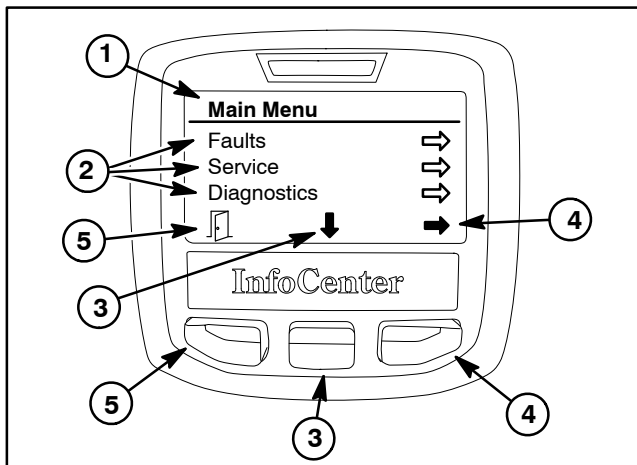

Figure 12
The main menu screen can be accessed from the InfoCenter main information or splash screen by pressing and releasing the menu/back button (left button) on the display. Once to the main menu screen (Fig. 12), navigation to the five (5) different menu items can occur. Pressing the move to menu item button (center button) allows a different menu item to be highlighted. Selection of the highlighted item is completed by pressing the choose item button (right button).